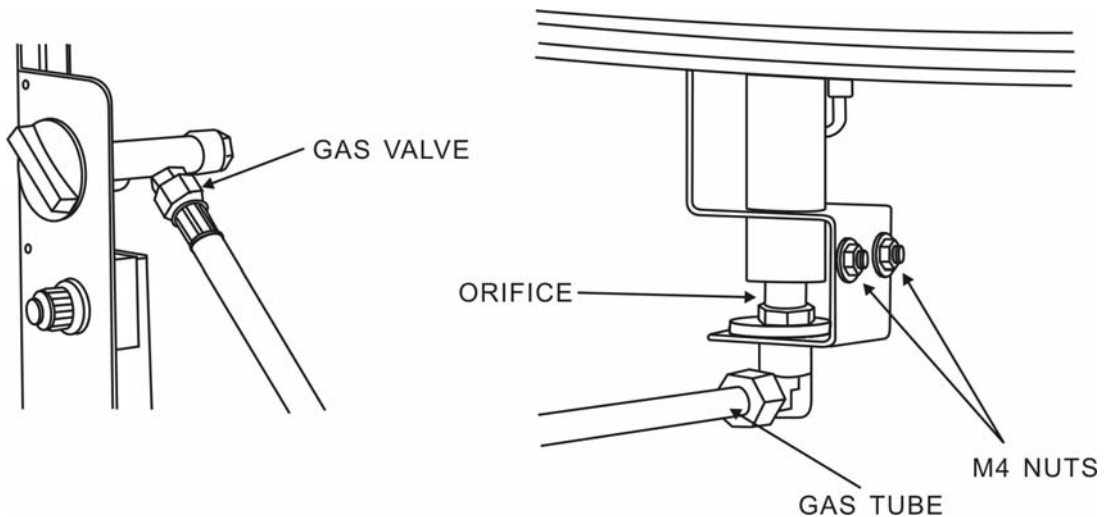

Figure 7
1. Disconnect the regulator hose from the gas valve. See Figure 7.